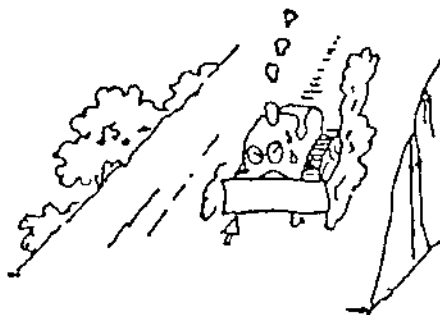

Fig. 6-6
3. When going down a sharp or long slope, drive at a low speed and use the engine as a brake. Never coast down a slope with the gear shift lever in "Neutral". If this is not enough to control the speed of the machine depress the brake pedals as well. In this case, the operator should pay special attention to the depressing speed and pedal travel. The operator may also lower the blade to the ground to increase the downslope resistance and decrease the speed. Though the gear shift lever is set at low speed position, the machine still has a tendency of acceleration and its speed would surpass the maximum speed at the same stage when it moves on level ground. Therefore, pay special attention when moving down a slope to avoid accident, as shown in Fig. 6-6.